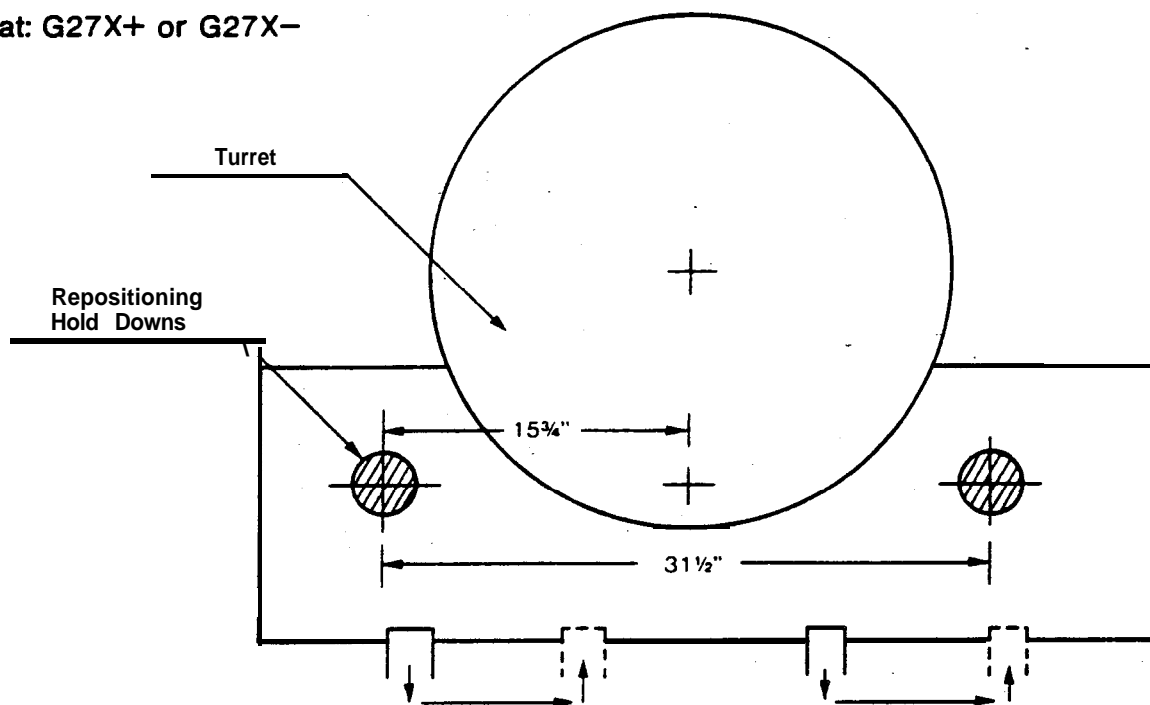

Figure 5
4. Carriage moves programmed amount in X axis. (Positive X value repositions as shown in Fig. 5, negative X value will cause repositioning in reverse direction.)